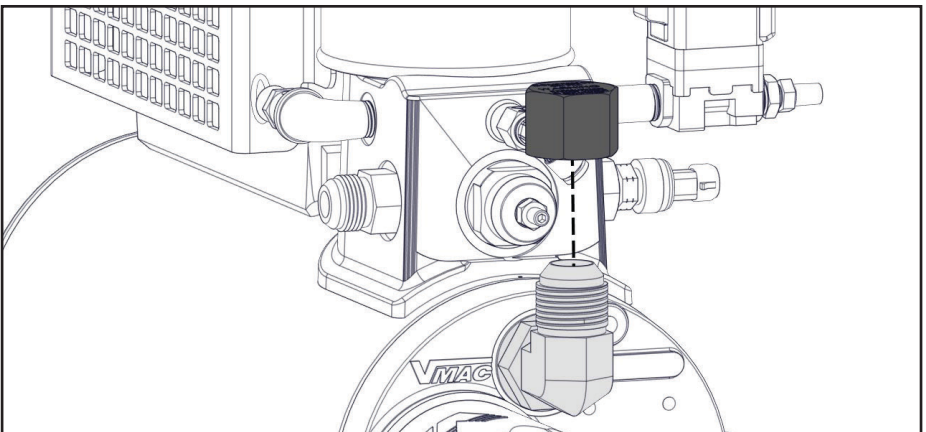

Figure 32 — Compressor oil fill
- Remove the filler cap on the WHASP Tank. Fill the WHASP Tank with VMAC compressor oil until it reaches the "MAX" mark. The air compressor system holds approximately 4 L (1 USG) of oil (Figure 32).